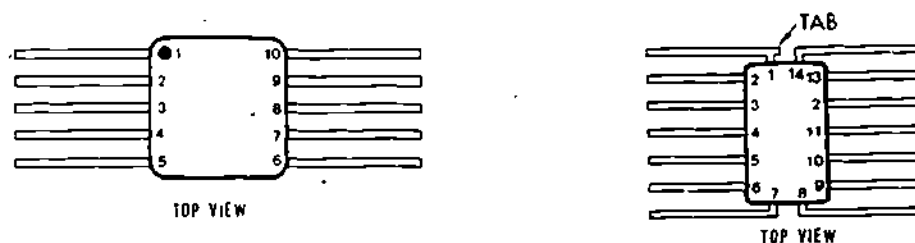

Figure 11
13. The flat pack IC may have any one of the reference marks used on the DIP (dot, notch, impression, hole or notch in pin 1). There is also one other possible reference mark. Pin 1 may have a tab on it (see Figure 11).